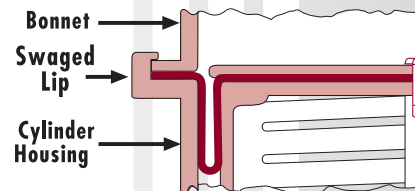

Fig. 22: Swaged Lip
**Swaged Lip (fig. 22)** – This is similar to the crimp ring except that the retaining lip is an integral part of either the bonnet or cylinder. Again the crimp lip should be thin and ductile for proper flange assembly and retention. The swaged lip provides a minimum outside diameter for a flat flange, yet lends itself to low cost, high volume production.